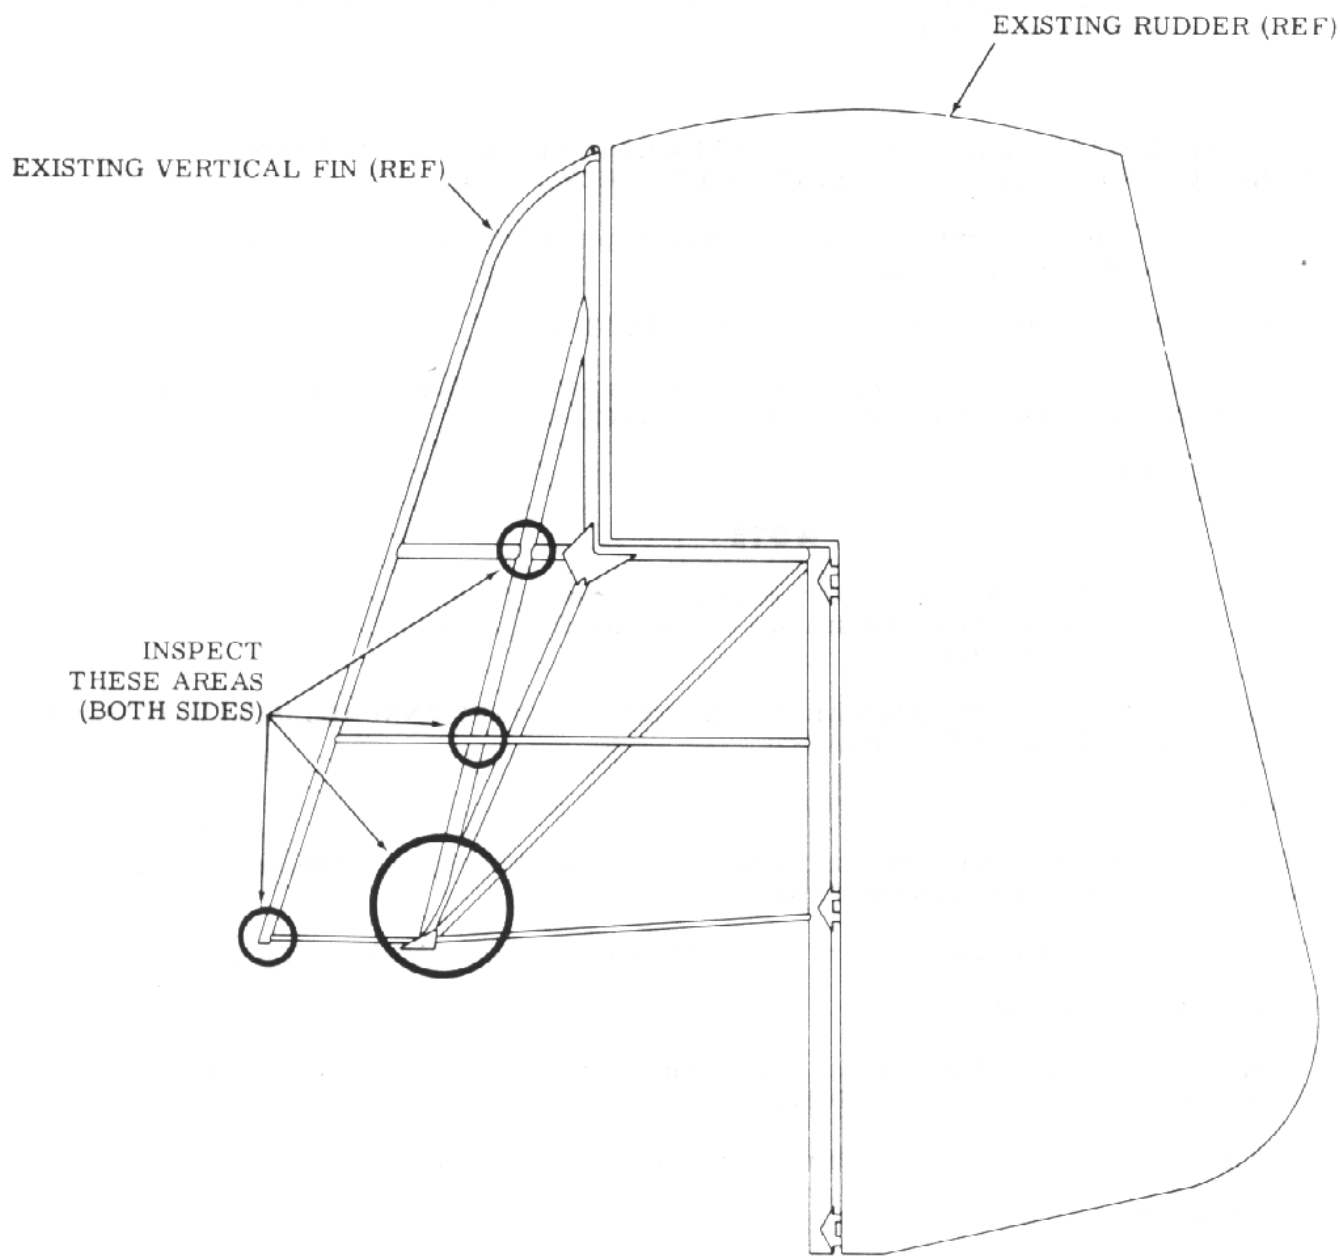

Figure 1.
- a. Visually inspect vertical fin and manually press horizontal support tubing in area shown in Figure 1. to immediately determine if tubing is broken.
- b. Remove fabric from vertical fin and inspect all welds on vertical fin for cracks or breaks. Particular attention should be directed to areas shown in Figure 1.